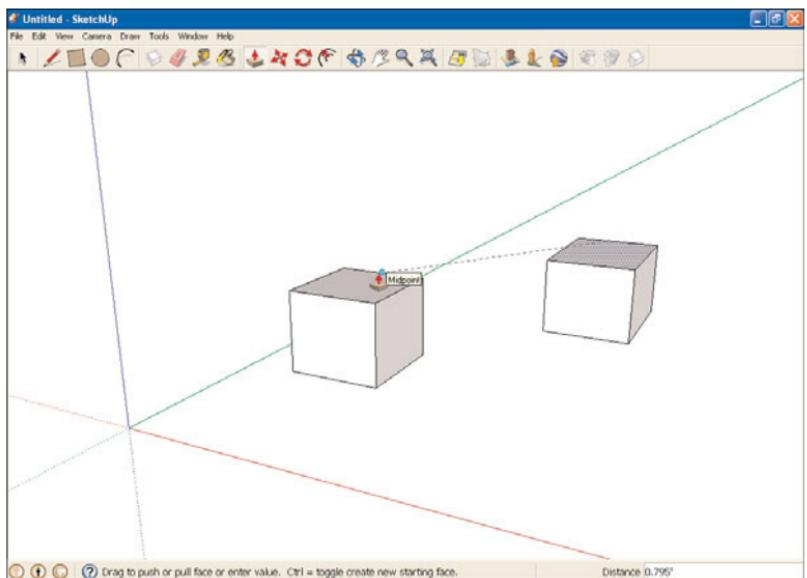

FIGURE 5.8 Making the cubes equal height.
6. Move the mouse to the top surface of the other cube. A dotted blue line extends from the first surface to the surface you're inferring, as shown in Figure 5.8, and the first cube (the one you clicked first) snaps to the height of the second cube (the one you're inferring to), as you can see in the figure.